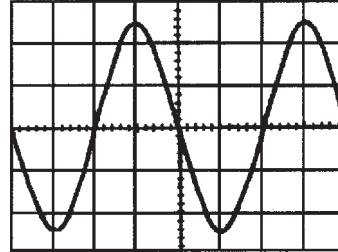

Figure RT3.1
1. A conductor, 25 cm long, is situated at right-angles to a magnetic field. Determine the strength of the magnetic field if a current of 12 A in the conductor produces a force on it of 4.5 N. (3)
2. An electron in a television tube has a charge of 1.5×10^{-19} C and travels at 3×10^7 m/s perpendicular to a field of flux density $20 \mu\text{T}$. Calculate the force exerted on the electron in the field. (3)
3. A lorry is travelling at 100 km/h. Assuming the vertical component of the Earth's magnetic field is $40 \mu\text{T}$ and the back axle of the lorry is 1.98 m, find the e.m.f. generated in the axle due to motion. (4)
4. An e.m.f. of 2.5 kV is induced in a coil when a current of 2 A collapses to zero in 5 ms. Calculate the inductance of the coil. (4)
5. Two coils, *P* and *Q*, have a mutual inductance of 100 mH. If a current of 3 A in coil *P* is reversed in 20 ms, determine (a) the average e.m.f. induced in coil *Q* and (b) the flux change linked with coil *Q* if it is wound with 200 turns. (5)
6. A moving coil instrument gives an f.s.d. when the current is 50 mA and has a resistance of 40Ω . Determine the value of resistance required to enable the instrument to be used (a) as a 0–5 A ammeter and (b) as a 0–200 V voltmeter. State the mode of connection in each case. (8)
7. An amplifier has a gain of 20 dB. Its input power is 5 mW. Calculate its output power. (3)
8. A sinusoidal voltage trace displayed on an oscilloscope is shown in Fig. RT3.1; the 'time/cm' switch is on 50 ms and the 'volts/cm' switch is on 2 V/cm. Determine for the waveform (a) the frequency, (b) the peak-to-peak voltage, (c) the amplitude, (d) the r.m.s. value. (7)
9. With reference to a p–n junction, briefly explain the following terms: (a) majority carriers, (b) contact potential, (c) depletion layer, (d) forward bias, (e) reverse bias. (10)
10. Briefly describe each of the following, drawing their circuit diagram symbol and stating typical applications: (a) Zener diode, (b) silicon controlled rectifier, (c) light emitting diode, (d) varactor diode, (e) Schottky diode. (20)